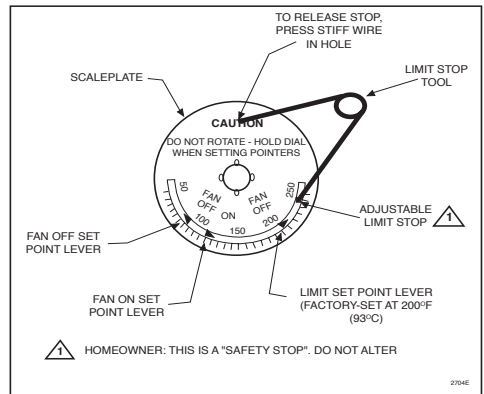

Fig. 10 - Changing the high limit stop.
All wiring must comply with local electrical codes and ordinances or in the absence of local codes with the National Electrical Code ANSI C1-1981-NFPA 70. Follow burner or furnace manufacturer's instructions if available; otherwise, see Fig. 10 and proceed as follows.
When adjusting the fan and limit set point levers (Fig. 10), hold the scaleplate dial to keep it from turning and straining the sensing element.
1. Push the small end of Limit Adjust Tool (196722) through hole in scaleplate (located at caution marking) to depress the stop disc not more than 1/16 in. (1.6 mm) to release stop lock (Fig. 10). Stop disc is on back of scaleplate.
2. While depressing the stop disc, insert the long end of Limit Adjust Tool next to limit stop (Fig. 10) and move the stop to desired setting. *If the L4064 is a replacement control, high limit stop setting should be the same as that of the control being replaced.*